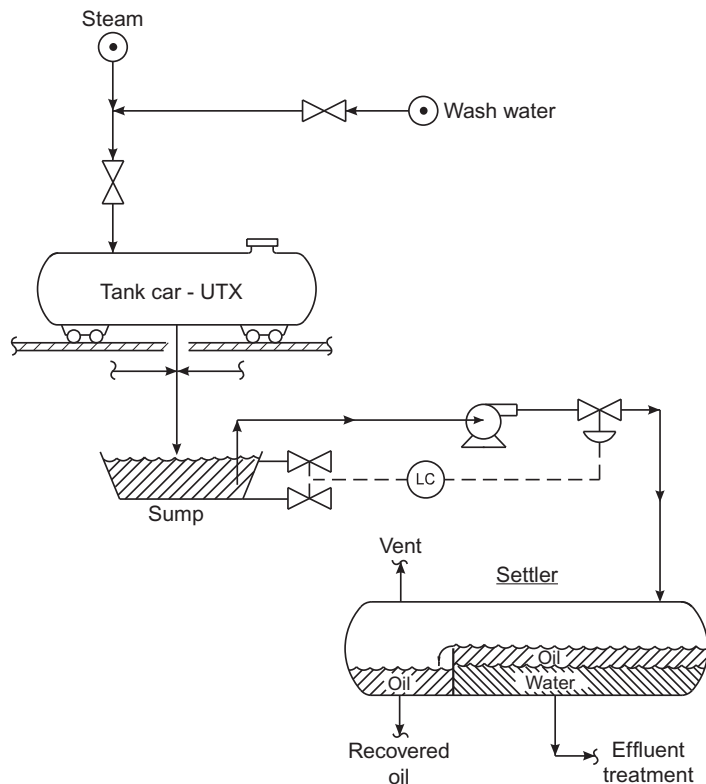
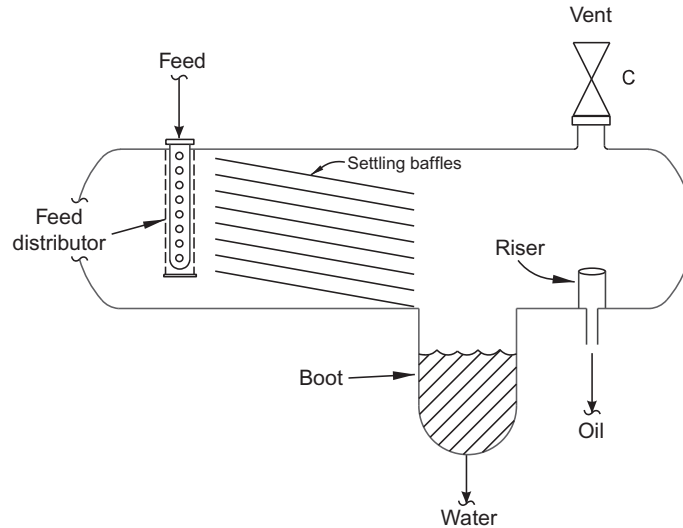

FIG. 8.1 Tank car steam condensate recovery system.
FIG. 8.3 Oil-water coalescer with sloped setting baffles.
“Mr. Lieberman, as you can see from the sketch I emailed you, we steam-out rail cars to remove diesel and other hydrocarbon residues. We then have several thousand BSD of an oil-water mixture that we must separate in a horizontal settling drum. Our problem is that we still have 3000–5000 ppm of residual hydrocarbons in the effluent water (see Fig. 8.1).”
One year, during a unit turnaround, the recip pump was replaced with a centrifugal pump, with also the addition of a sump level control valve on the discharge line (Fig. 8.1). A sample from the discharge of the pump required a half an hour to settle out. A sample from the level control valve required most of the day to settle. To minimize settling time due to the emulsification in the settling drum for the UTX unit, I suggested eliminating the control valve on the discharge of the sump pump shown in Fig. 8.1. We could then use a level switch that would turn the pump on at a given level and off when the level dropped below the set point. I would have suggested the use of a reciprocating pump, but did not think my client would appreciate this costly expenditure.
Since the effluent (see Fig. 8.1) of the tank car wash water collection sump was full of black particulates, I decided to eliminate use of packing as a viable option.
Fig. 8.3 shows the common industry practice of the use of settling baffles. I have used this design on several occasions with good results, even in fouling services. A typical settling baffle configuration uses:
Water flows into the boot shown in Fig. 8.3 and the oil overflows into the riser pipe (typically 6 in.).
But this third factor is always unknown. So, like everything else in process design, the engineer must ultimately rely on judgment and experience, when sizing water-oil settling vessels. The story I have just related about the UTX rail tank car cleaning project is a typical example. Eliminating the LRC valve shown in Fig. 8.1 was likely the critical improvement.
3. Retrofitting the settling drum (Fig. 8.1) with sloped settling baffles (Fig. 8.3).